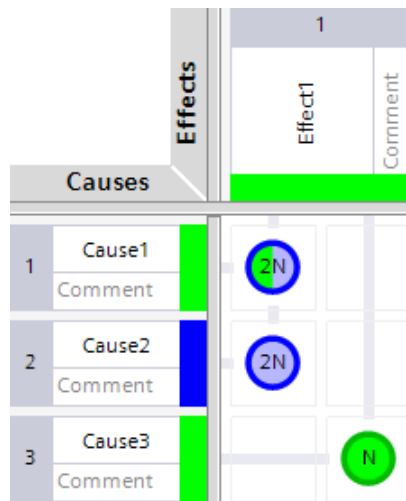

Figure 5.67 – Effect with multiple intersection columns
*Figure 5.67* shows an example of a two-group configuration. Both **Cause1** and **Cause2** belong to the same group. Because only **Cause1** is in a **True** state, the effect does not receive a **True** value.